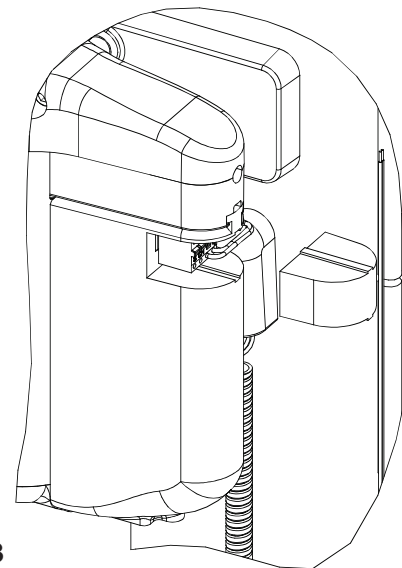

Figure 33
5. Refer To Figure 33, and INSTALL receptacle cover onto battery pack.